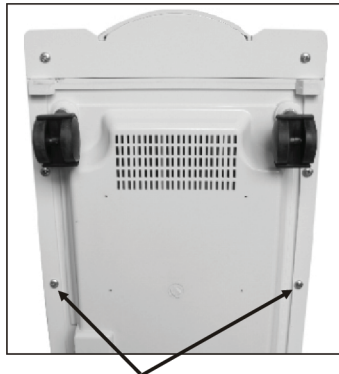

Figure 21
- › Make the machine horizontal, unscrew 10 fixing screws in the bottom. (Figure 21)